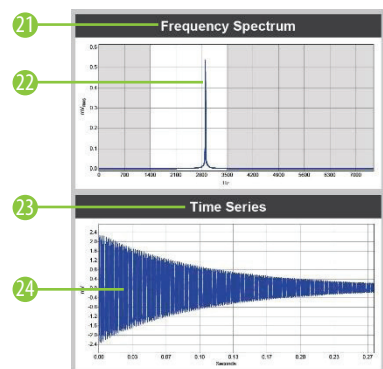
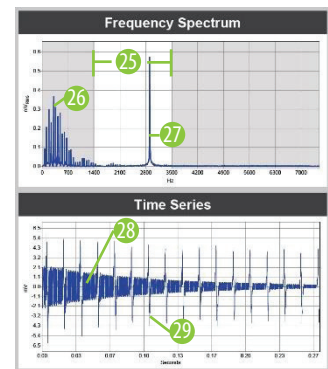

Figure 1: Vibrating Wire Signal
Figure 2: Vibrating Wire Signal With Noise
The following two sets of graphs illustrate the use of VSPECT™ to identify a sensor signal in a quiet and noisy environment. Both graphs were created from VWA reports using the same sensor. Fig. 1 was measured in an electrically quiet environment, while Fig. 2 was measured in an electrically noisy environment (AC power) similar to what can be seen in a field environment (power lines, motors, radio signals, etc.). The time series on Fig. 1 shows a relatively clean signal ②4 that is clearly identified ②2 on the frequency spectrum ②1. The time series ②8 on Fig. 2 shows the influence of the noise. ②9 Vibrating wire readers that only use the time series ②8 to determine the frequency may report an incorrect frequency as a result of noise. The frequency spectrum (VSPECT™) filters the noise ②6 and easily identifies the sensor signal ②7. VSPECT™ provides noise immunity by correctly identifying the sensor signal and ignoring the influence of electrical noise that commonly affects time-domain-based vibrating wire readers.